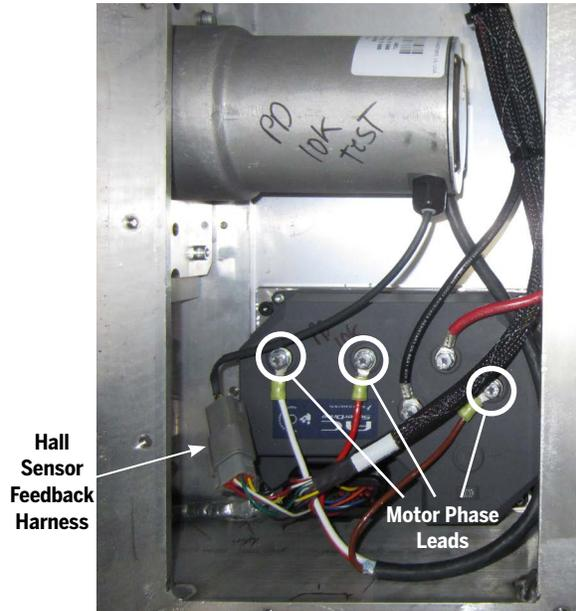

Figure 129: Motor Harnesses
4. Using a 10 mm socket wrench, disconnect the motor phase leads. See **Figure 129**.
11. Connect the Hall Sensor Feedback harness. See **Figure 129**.